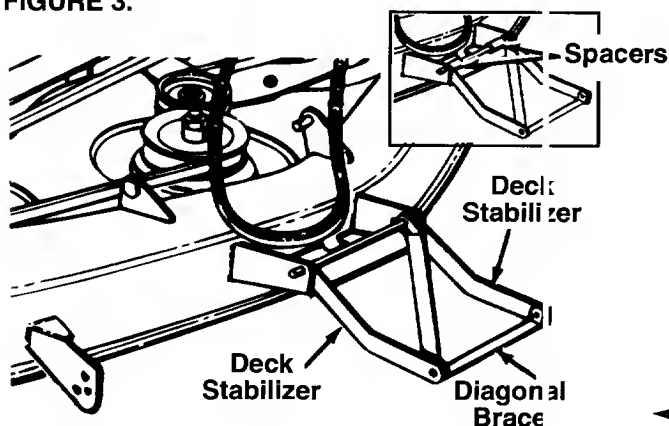

FIGURE 4.
3. The two deck stabilizers and the diagonal brace which are attached to the front of the deck are folded back over the deck for shipping purposes. Unfold them at this time. See figure 4.
NOTE: If the hardware for attaching the deck is assembled to your deck, remove the hairpin clips and flat washers from each deck bracket. Remove the spacers from the rod which is through the deck stabilizer by removing the hairpin clips and sliding out the rod. Replace the rod and hairpin clips. See figure 4, inset.